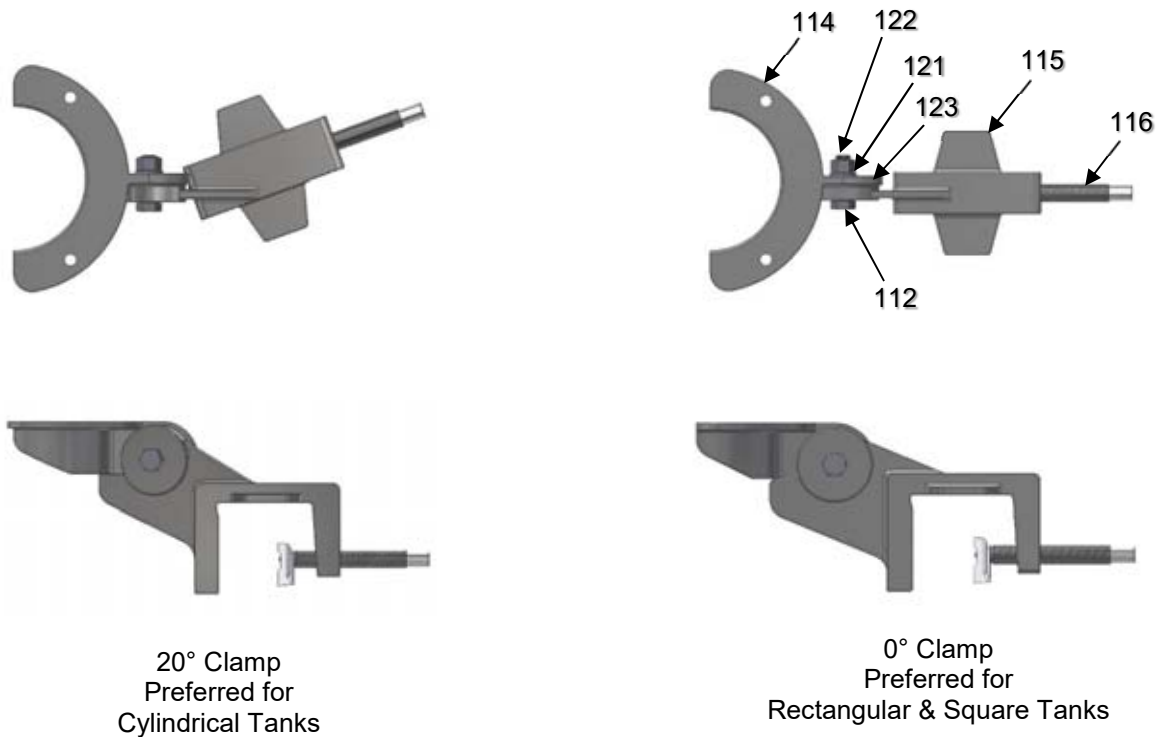

FIGURE 3
2.3 "P" Units - Clamp Mounting Module - The clamps are cast offset at recommended 20° horizontal plane and adjustable 0-10° in the vertical plane. Clamps are also available with zero degree offset in the horizontal plane and adjustable 0-10° in the vertical plane. The clamp assembly (115) is fastened by hex head cap screw (112), flat washer (121), and hex nut (122) to the yoke (114). There is an anti-rotation insert (123) between the pivoting faces of the yoke (114) and clamp assembly (115). Refer to Figure 3. The yoke is bolted directly to the mixer housing module with two hex head cap screws (113).